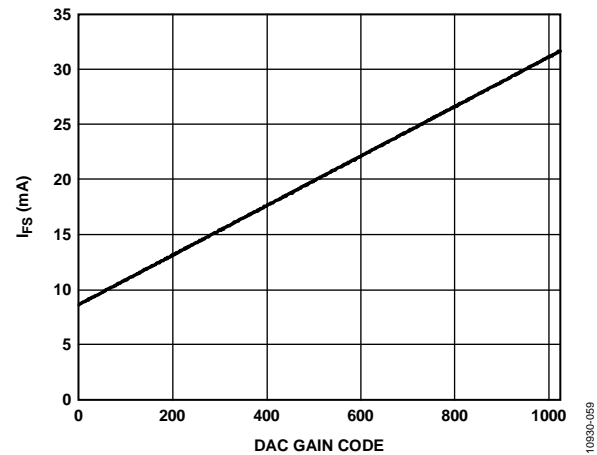

Figure 55. DAC Full-Scale Current vs. DAC Gain Code
For nominal values of  $V_{REF}$  (1.2 V),  $R_{SET}$  (10 kΩ), and DAC gain (512), the full-scale current of the DAC is typically 20.16 mA. The DAC full-scale current can be adjusted from 8.64 mA to 31.68 mA by setting the DAC gain parameter, as shown in Figure 55.